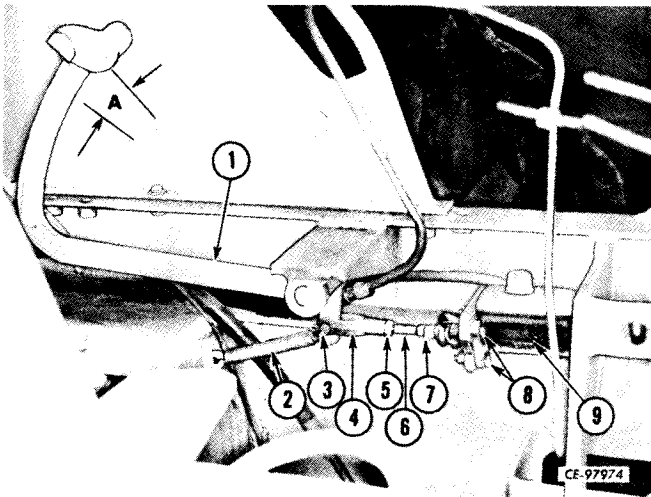

Figure 13-3
Position master cylinder (1, Fig. 13-3) on mounting bracket (2) and install and tighten cap screw and nuts. Install clevis (3) to brake pedal arm and install clevis and cotter pin.